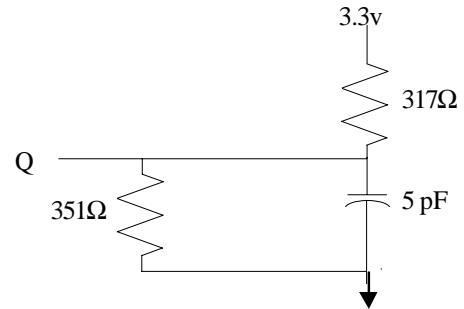

Fig. 2 OUTPUT LOAD EQUIVALENT
- The load used for V_{OH}, V_{OL} testing is shown in Figure 2. AC load current is higher than the shown DC values. AC I/O curves are available upon request.
4. This parameter is measured with the output loading shown in Figure 2.